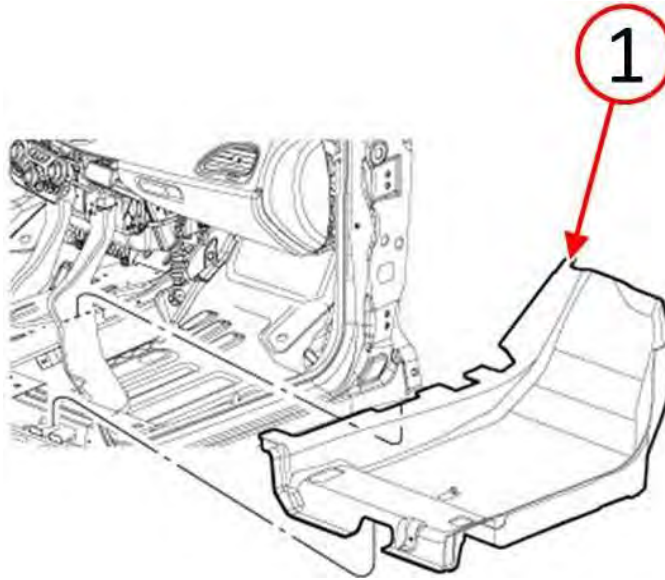

Fig. 7 Remove Right Side Front Footwell Carpet
6. Remove the carpet (1) from the vehicle through the passenger door opening (Fig. 7).